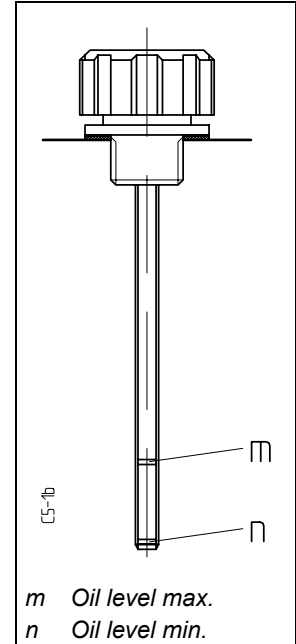

Fig. 5.2: Oil dipstick
- Switch off the drive (A).
- Unscrew the oil dipstick (1) and wipe off the oil.
- Screw in the oil dipstick (1) and unscrew it again.
- The oil level must be between max. and min. (see Fig. 5.2).